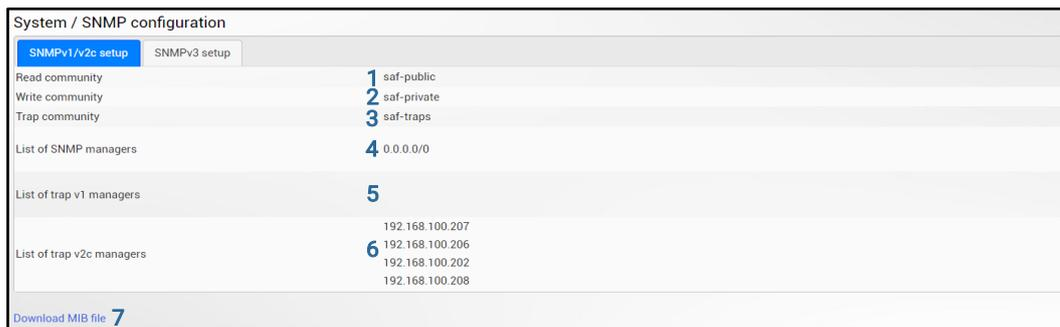

Figure 3-190 SNMP status page, SNMPv1/v2c shown
Relevant MIB files can be downloaded directly from Integra-X/-X2/-FIDU/-FIDU+ Web GUI. See (7) in *Figure 3-190* below.